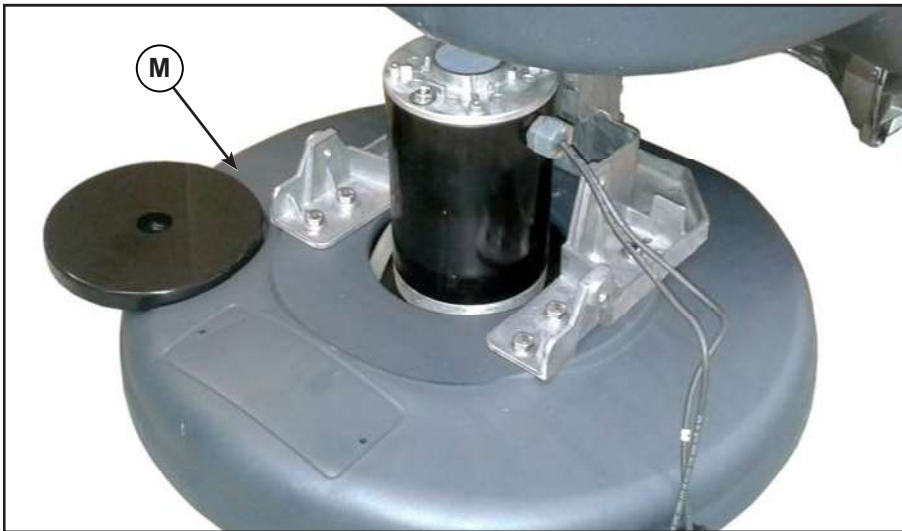

Figure 10:
11. Extract the REV deck (L) (Figure 10) from beneath the solution tank.